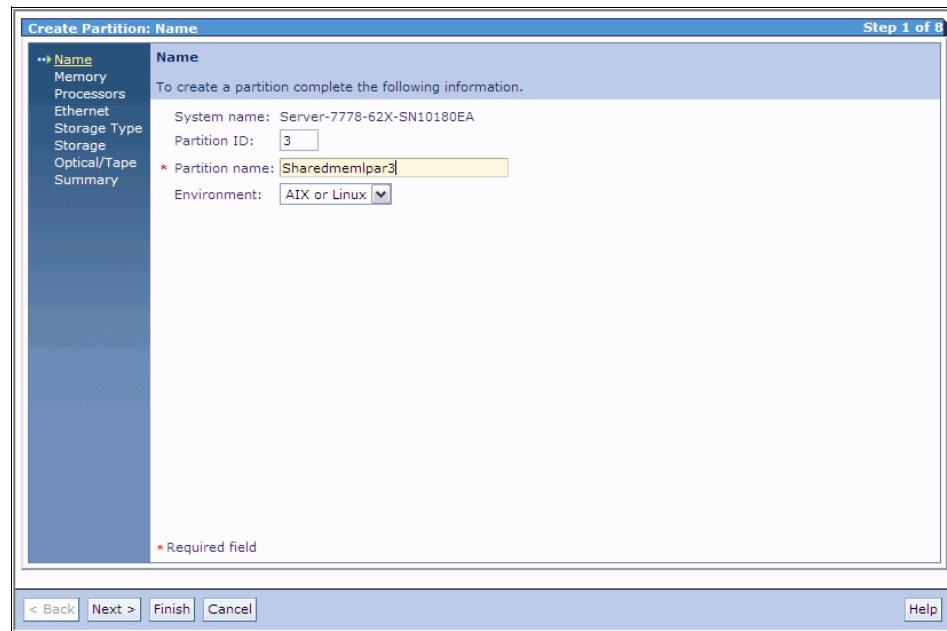

Figure 5-12 Creating a shared memory partition name
1. The LPAR wizard is started by clicking the **View/Modify Partitions** link on the IVM UI, and then clicking the **Create Partition** button. Figure 5-12 shows the first window of the wizard where the partition ID, partition name, and operating system environment are set. Enter the required information and click **Next**.